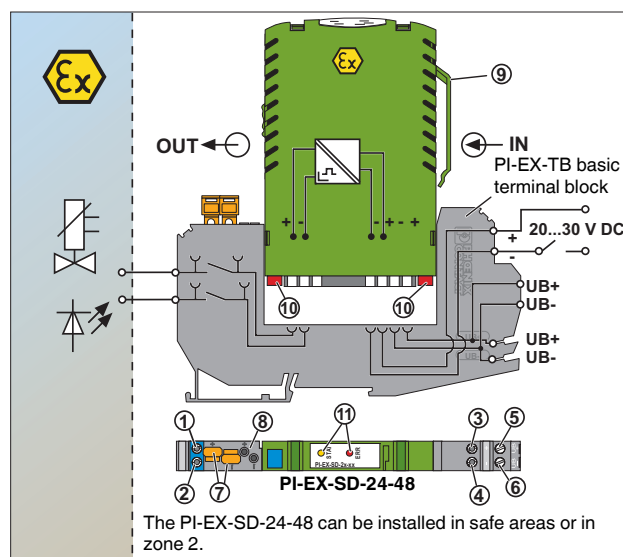

Figure 2 Structure
The base element is not keyed by default upon delivery. The user-friendly keying is located in the electronic module and consists of four plastic parts, which are joined together. When the electronic module is first removed, the bottom part of the keying pins (⑩ in Figure 2 on page 7) remains in the base element. In this way, it is automatically keyed to the relevant electronic module.